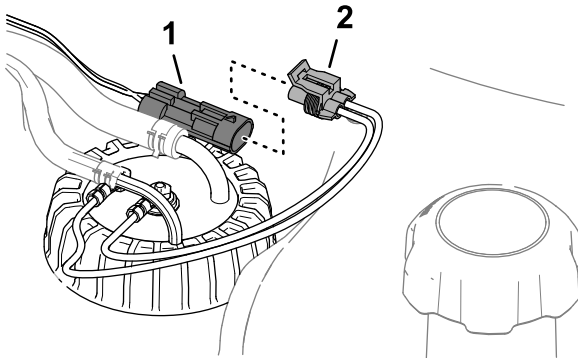

Figure 86
3. Remove the 2-socket connector of the fuel-sender harness from the 2-pin connector of the machine wire harness (Figure 86).